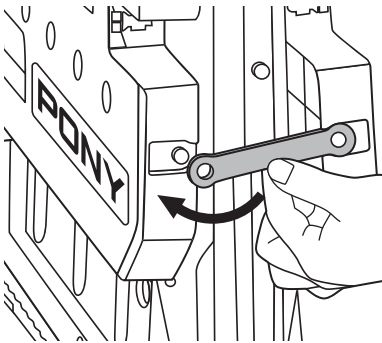

Figure 16
3. Use the safety straps to fix the table on both sides. (Figure 16)